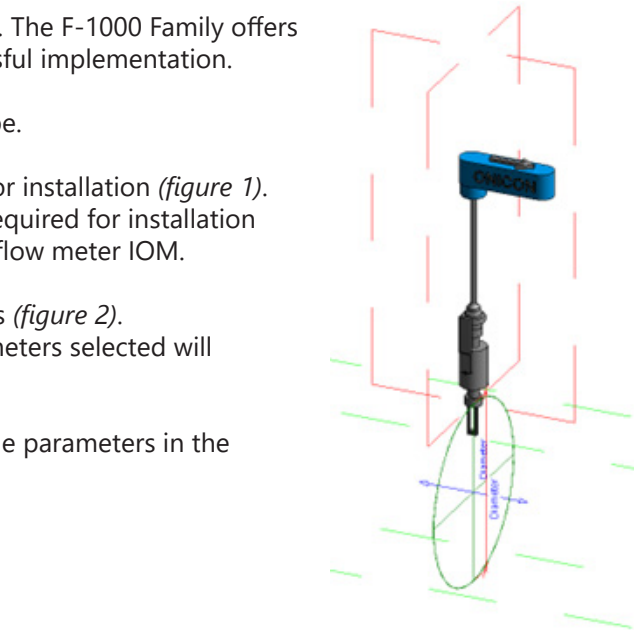

Figure 2
- Easily rotate meter and components for vertical or horizontal installations (figure 2).